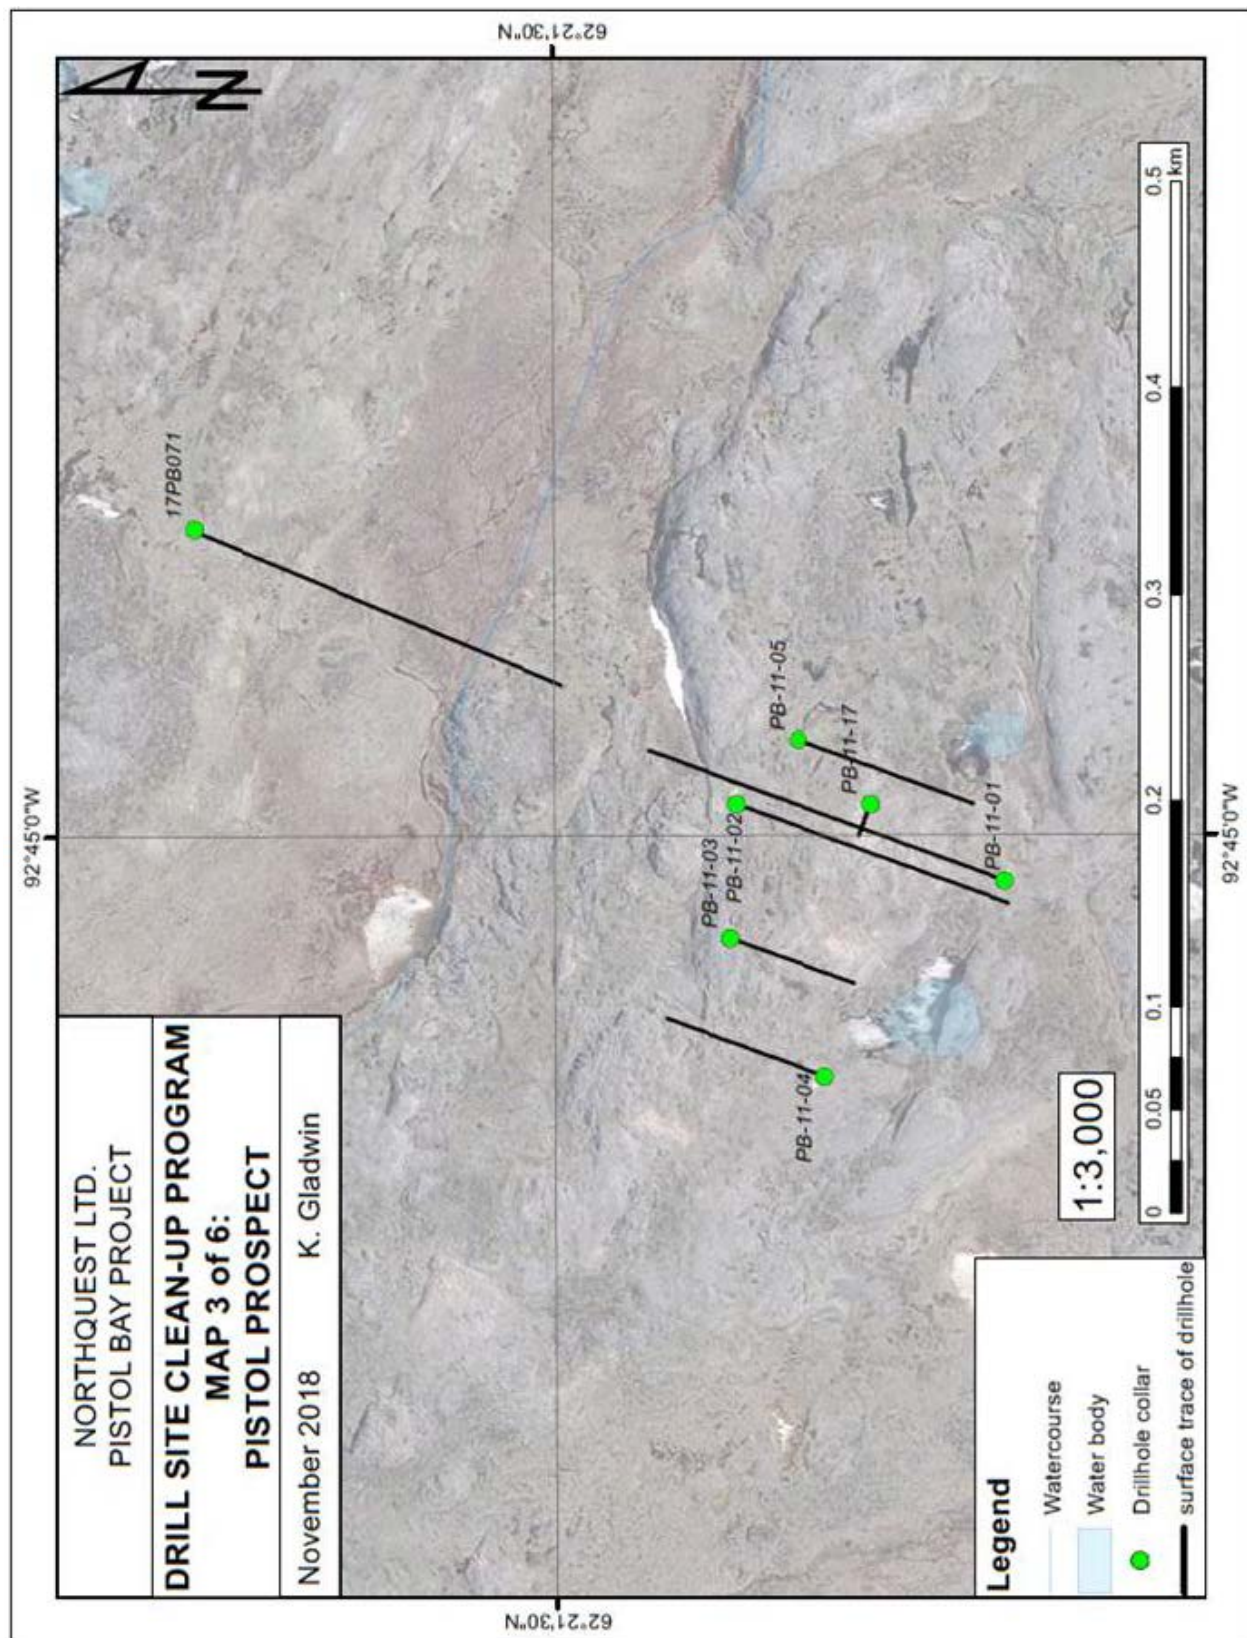

Figure 10. Map illustrating the Pistol Prospect drill sites.
- Figure 10. Map illustrating the Pistol Prospect drill sites.
| • Pistol               | Drill holes illustrated on Figure 10                    |